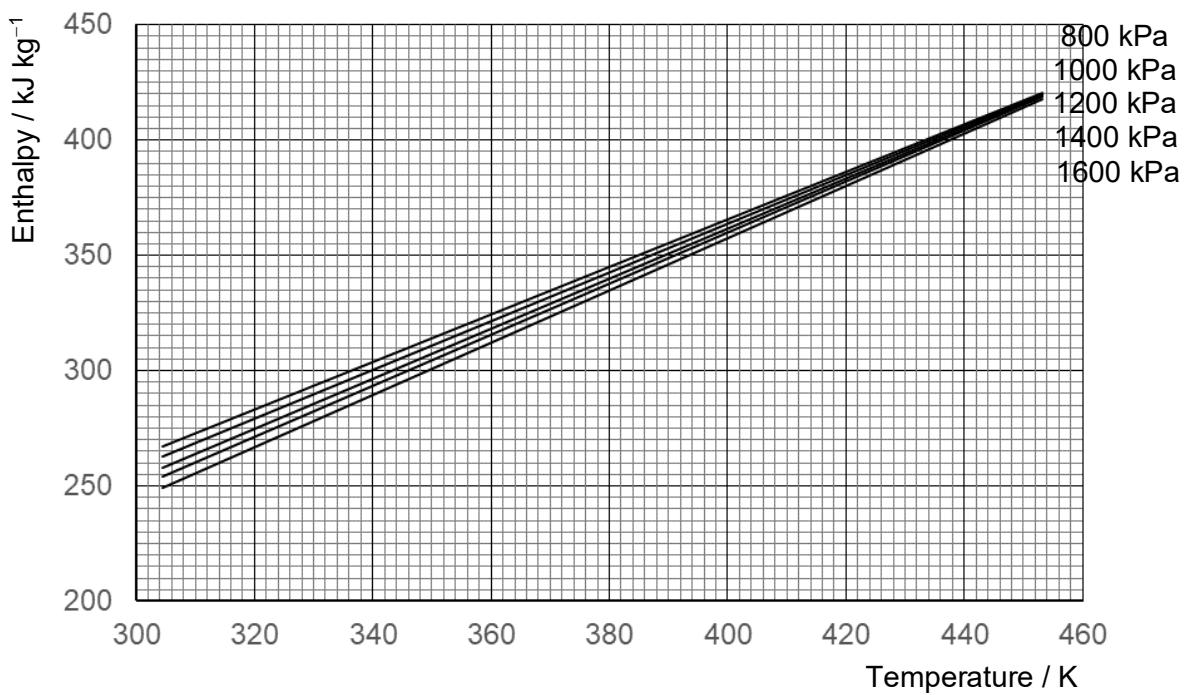
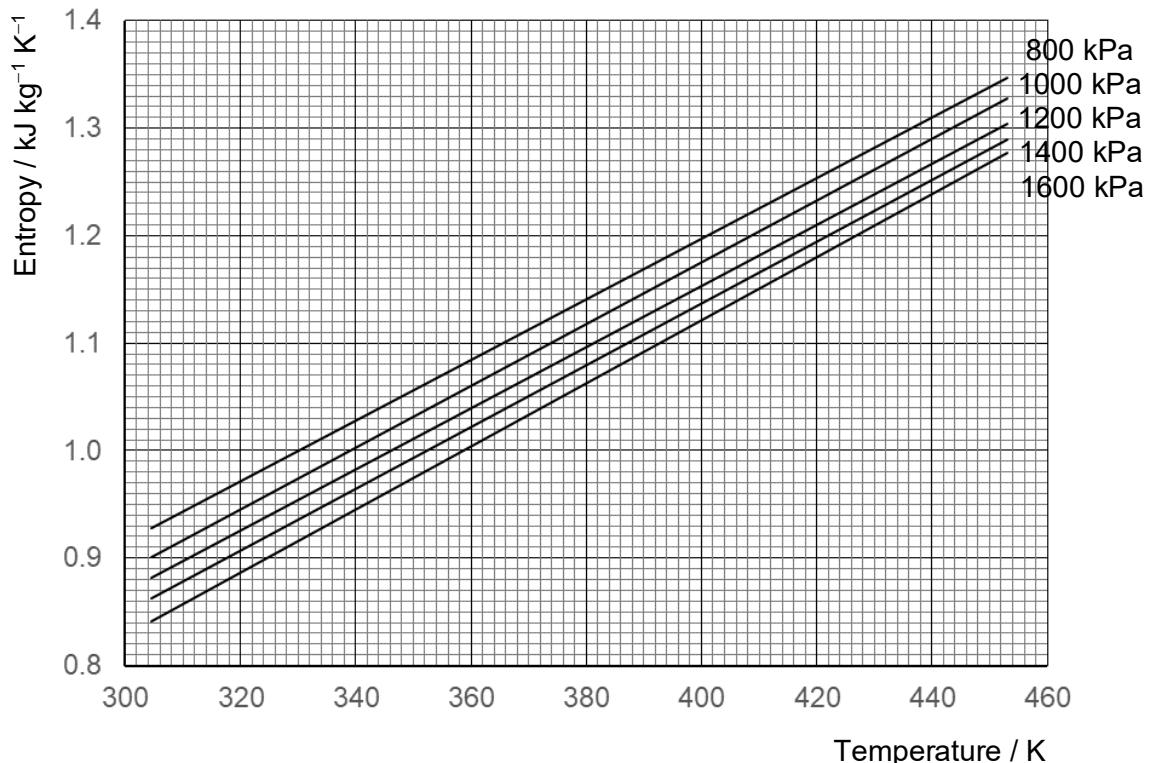

Fig. 8.4
Fig. 8.5
- (ii) At state Q, the enthalpy and entropy of the refrigerant at various pressures are shown in the graphs in Fig. 8.4 and Fig. 8.5.
1. Use Fig. 8.5 to verify that the temperature of the refrigerant at state Q is 322.0 K.